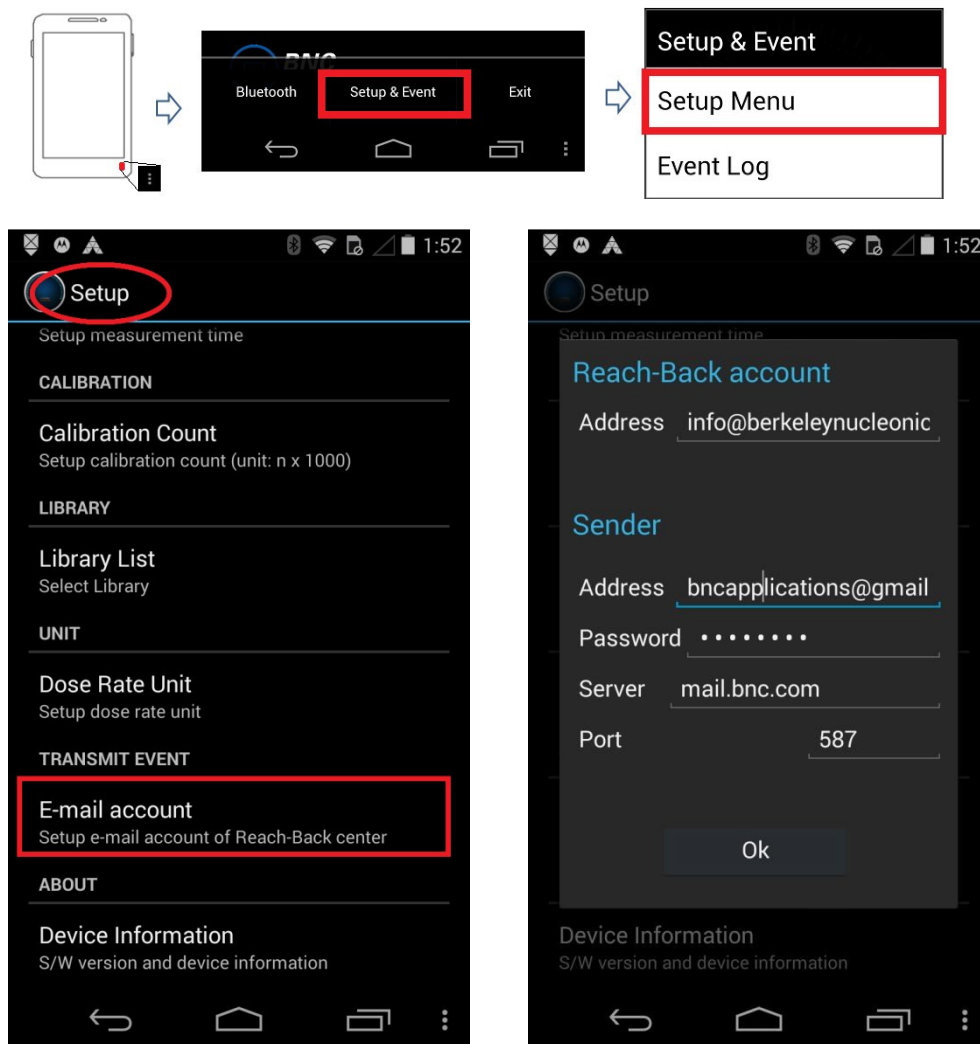

Figure 4.33. Email setup example for wireless data transmission
- a. Open the Setup menu (Figure 4.33, top)
- b. Scroll to TRANSMIT EVENT and select **E-mail account** (Figure 4.33, lower left)
- c. Enter the recipient's address under Reach-Back account (Figure 4.33, lower right)
- d. Enter the sender's address under Sender (Figure 4.33, lower right)